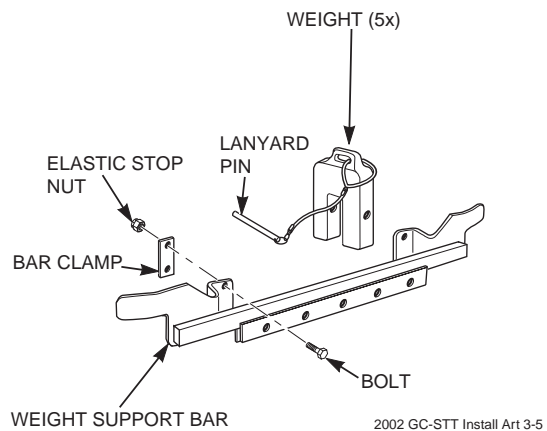

FIGURE 3-5
16. Install the weight support bar to the front of the machine by resting it directly on top of the caster support arms and sliding it tight against the frame of the machine. Secure the weight bar to the machine using (2) bar clamps, (4) 3/8-16 x 1-1/2" bolts and (4) 3/8-16 elastic stop nuts. See Figure 3-5.
17. Install the weight assemblies to the weight support bar and secure them to the bar using the 1/2"x 6-1/4" pin and lanyard. See Figure 3-5.